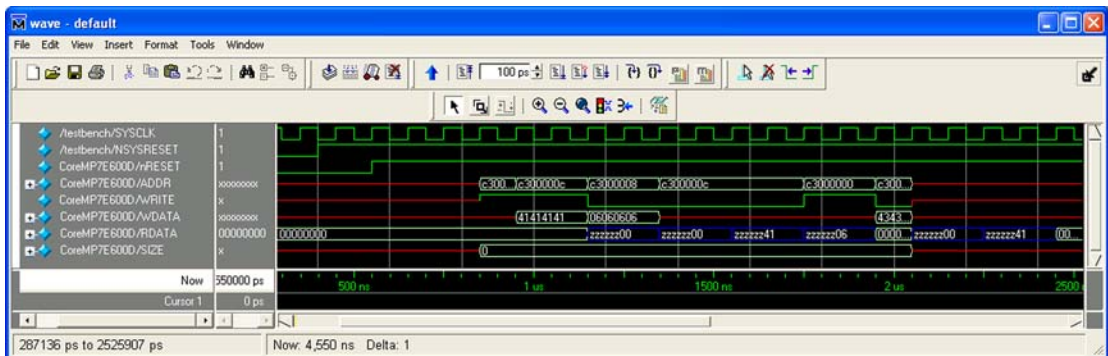

Figure 5-36. ModelSim Wave Window with CoreMP7 Signals
10. Undock the ModelSim Wave window and maximize it, then select **Zoom Full** from the **View > Zoom** menu. Examining the ADDR, RDATA, WDATA, WRITE, SIZE, SYSCLK, nRESET, and NSYSRESET signals allows the re-creation of the BFM scripts and validates the results. The corresponding signals have been grouped together and are shown in Figure 5-36.